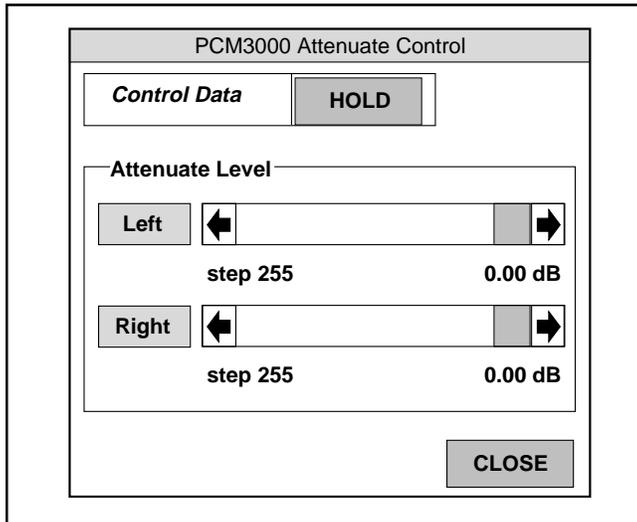
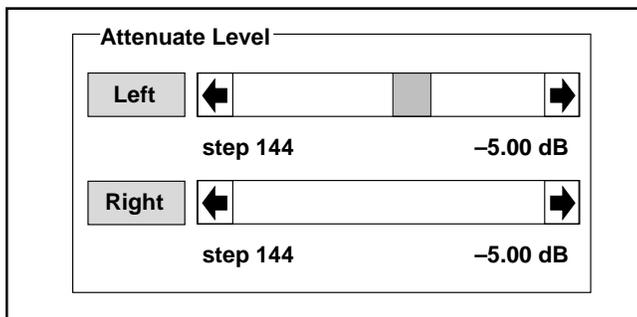

FIGURE 8. PCM3000 Attenuate Control for Individual Channels (default).
FIGURE 9. PCM3000 Attenuate Control for Simultaneous Channels.
By selecting Attenuate (A), the user can control a L/R independent 256-step attenuator (Figure 8). When L/R simultaneous control is selected in Function (F), only the left channel is displayed (Figure 9).